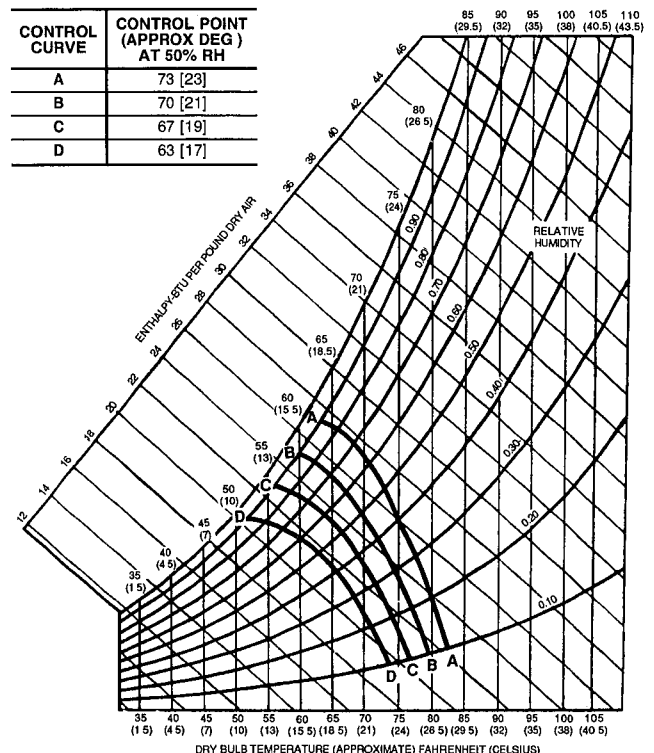

Fig. 24 – Enthalpy Settings for PARABLADE Economizer
8. Determine the enthalpy changeover set point from Fig. 24. The enthalpy changeover set point should be set to return the outdoor air damper to the minimum position when enthalpy rises above the set point. The settings are A, B, C, and D. Set the enthalpy changeover per the setting in Fig. 24.